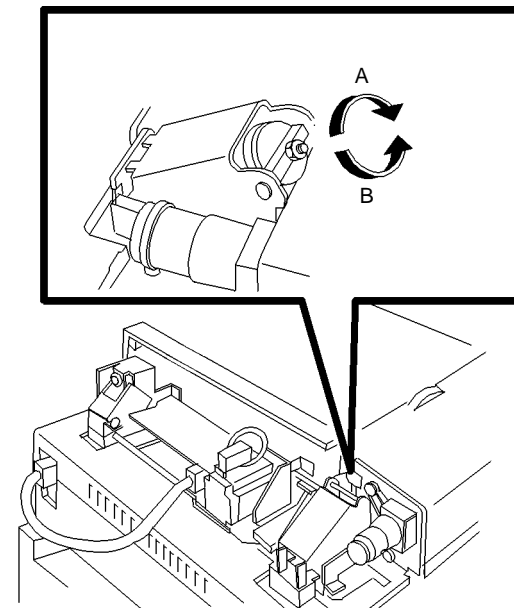

Figure 2 Adjusting Left Counterbalance
2. Adjust the Left Counterbalance (Figure 2).